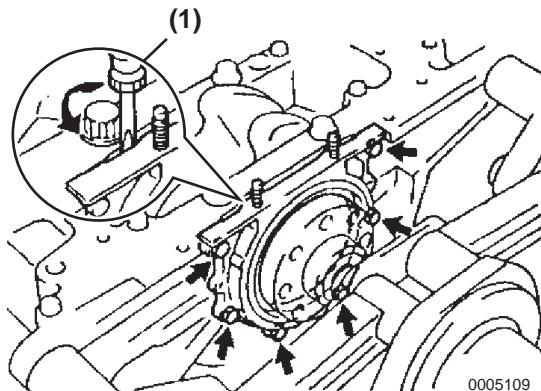

Figure 5-79
2. Insert a screwdriver between the oil seal case and main bearing cap and pry (Figure 5-79, (1)) to remove the oil seal case.